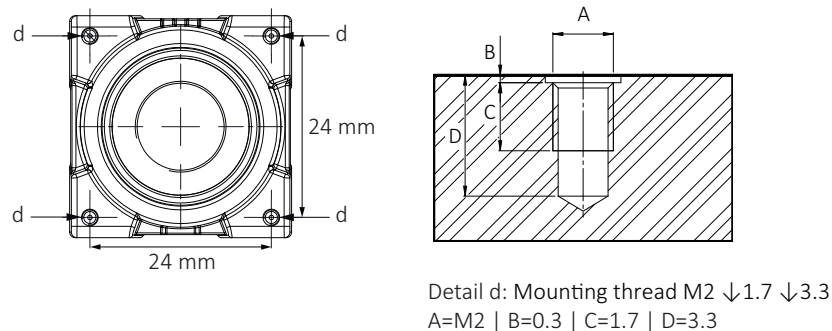

Figure 73: Camera front with mounting threads (d)
1. Mount the camera to the base using suitable M2 screws at 0.17 Nm maximum torque for a thread engagement (C) of 1.7 mm between screws and mounting threads, see Figure 73. For technical drawings, see Dimensions and mass on page 158.